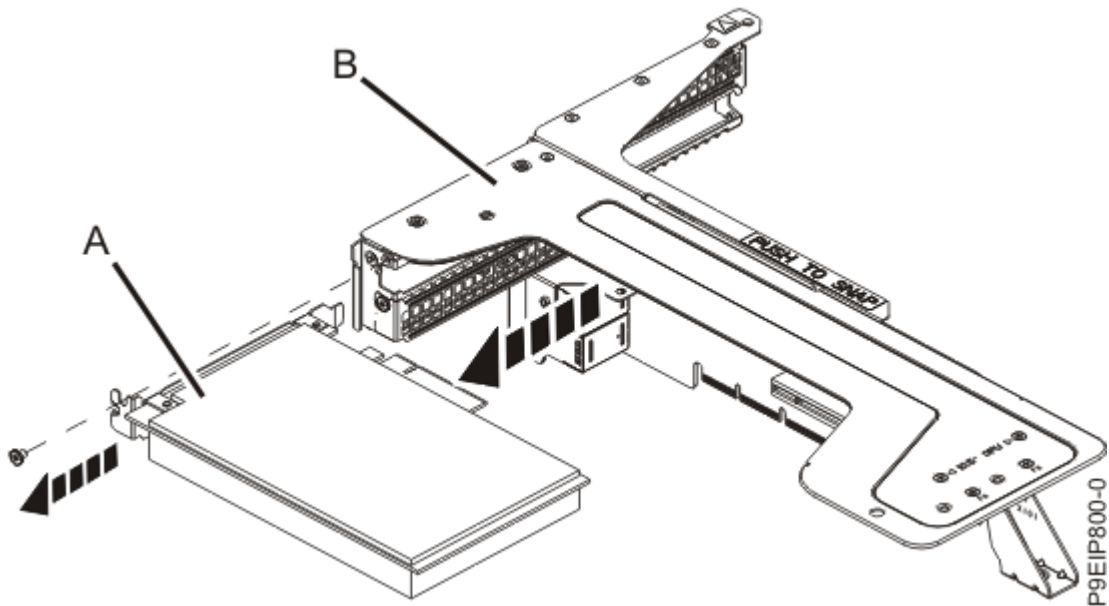

Figure 18. Removing a position 2 adapter from the riser
h) Unplug an adapter (A) in position 2 from the PCIe adapter riser (B) as shown in Figure 18 on page 22.